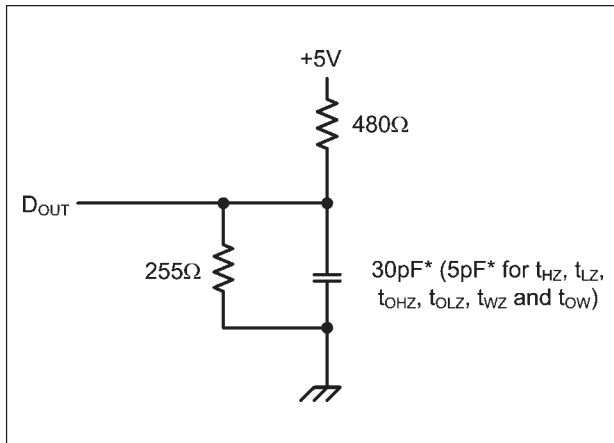

Figure 1. Output Load
- 8. Transition is measured  $\pm 200$  mV from steady state voltage prior to change, with loading as specified in Figure 1. This parameter is sampled and not 100% tested.
Output Load	See Fig. 1 and 2